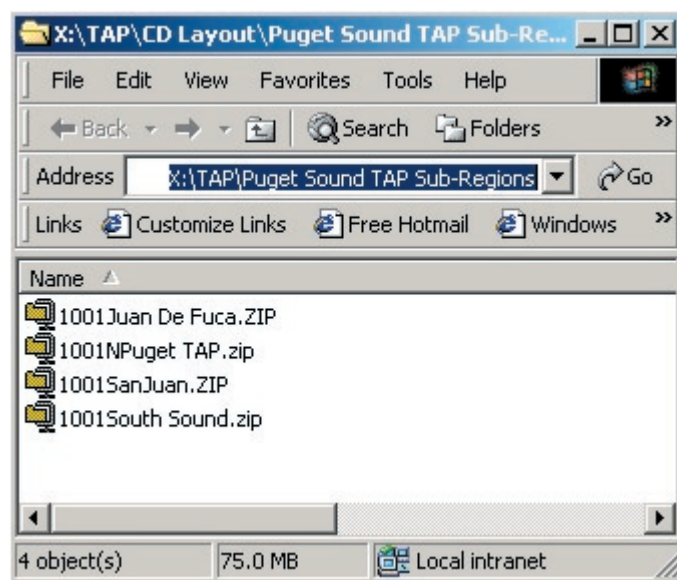

Figure 2. Files contained in Puget Sound Sub-Regions folder
2. Open a Puget Sound TAP Sub-Region Folder. See figure 2.